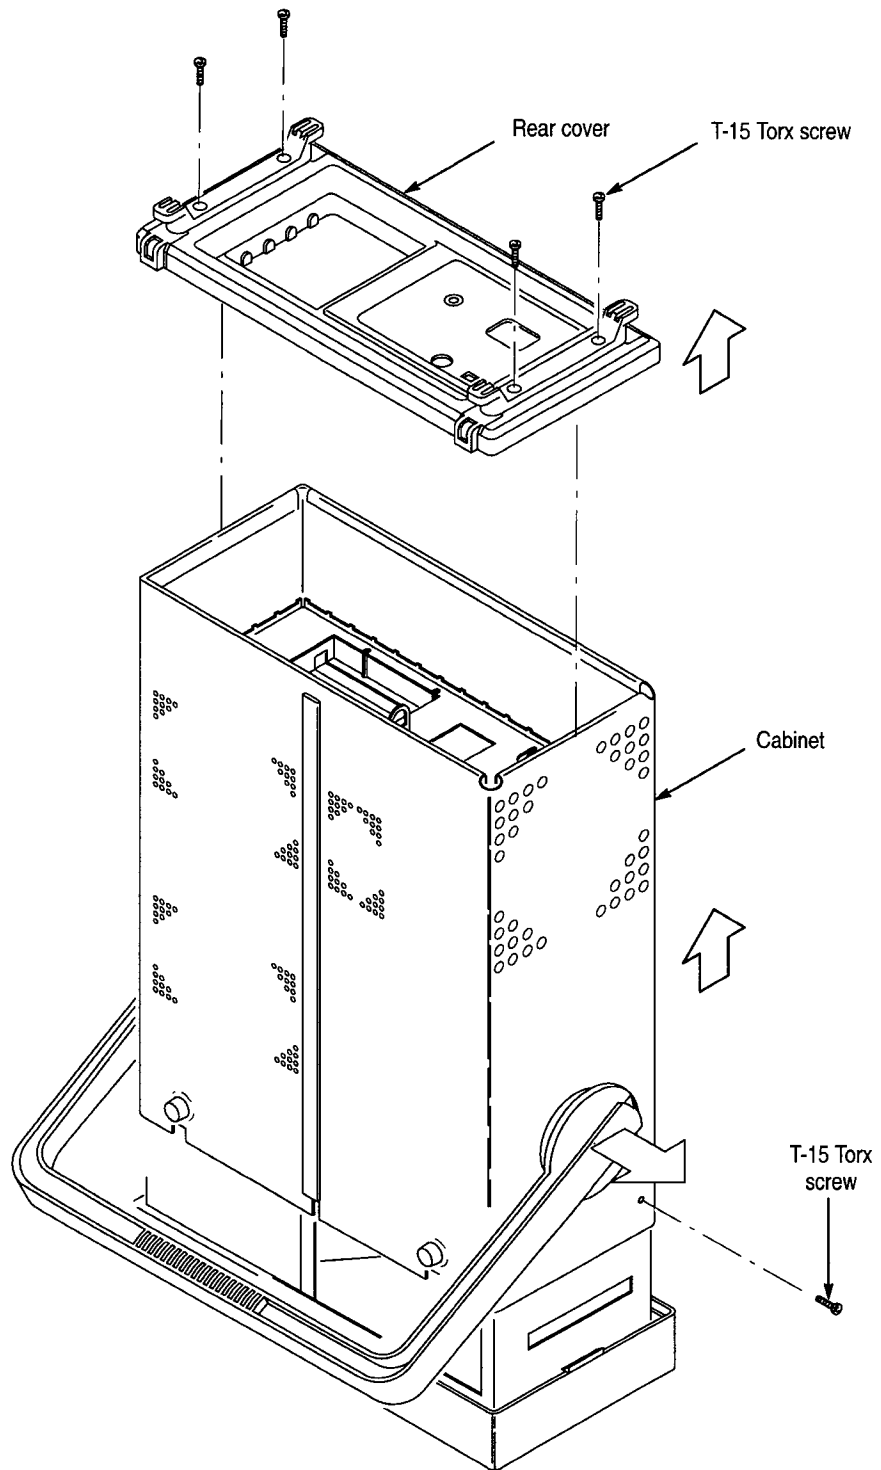

Figure 6: Oscilloscope rear panel and cabinet removal
1. Install the front cover. Set the oscilloscope face down with the front cover on the work surface and the bottom facing up (see Figure 6).